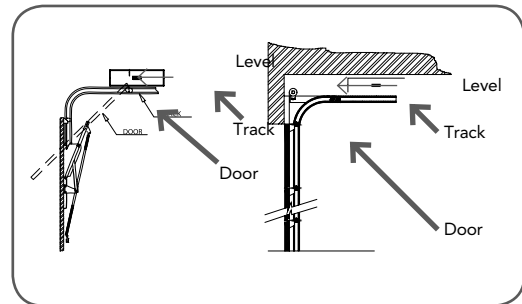

fig 08
- Using a level, transfer this height to the wall above the door (**Fig. 08**) and mark a line 60mm above it.